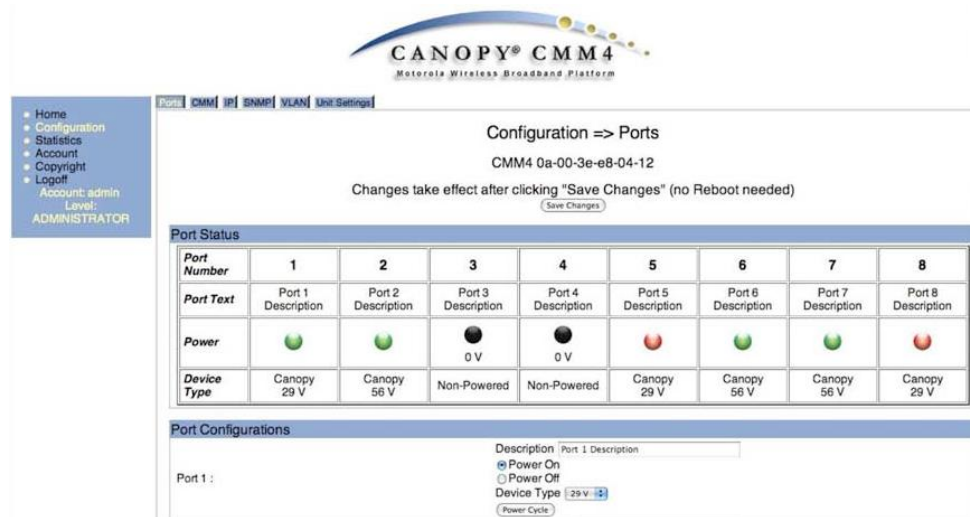

Figure 8: CMM Port Configuration for UGPS Power
- 4** On the CMM4 web management GUI navigate to **Configuration > Ports**. In this configuration the CMM4 port connected to the UGPS via RJ-45 cable must be configured with **Power On** and **Device Type Canopy 29V** as Port 1 in Figure 8.